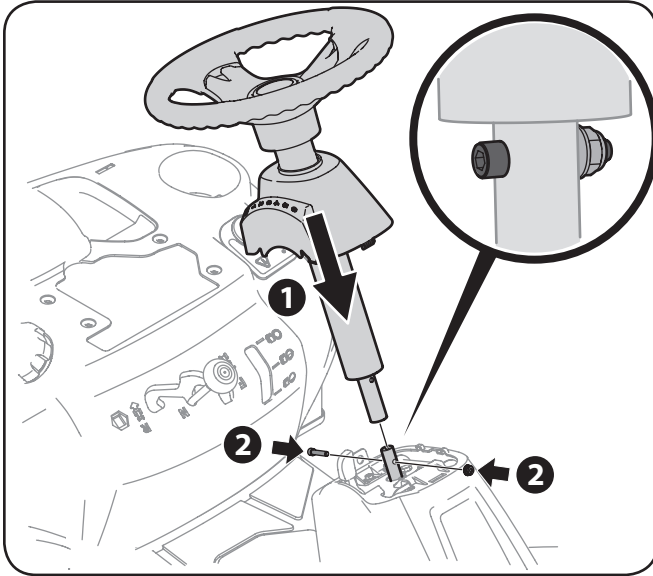

Figure 3-2
4. Lower the steering wheel assembly onto the lower steering shaft and secure with the socket head screw and lock nut previously removed. See Figure 3-2.